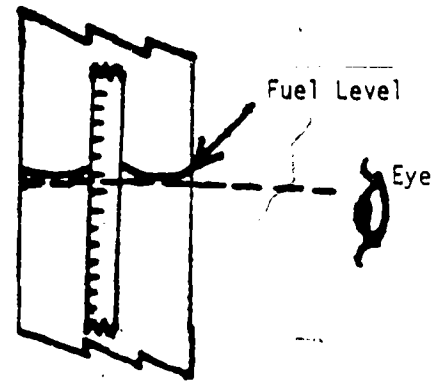

Figure 3
k. Read the hydrometer. Keep your eye level just below the meniscus and read the hydrometer to the nearest scale division where the bottom of the meniscus cuts the scale. See Figure 3, Page 16 .